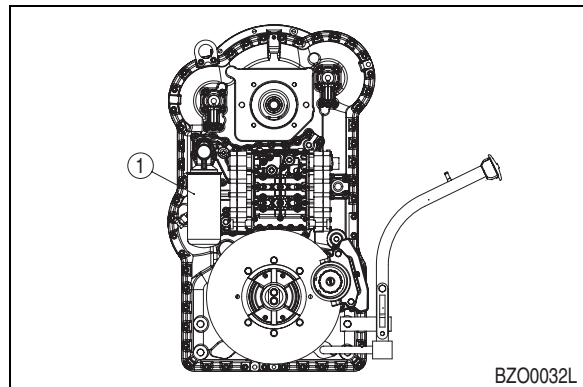

Figure 73
9. Rotate filter (1, Figure 73) counterclockwise to remove it.